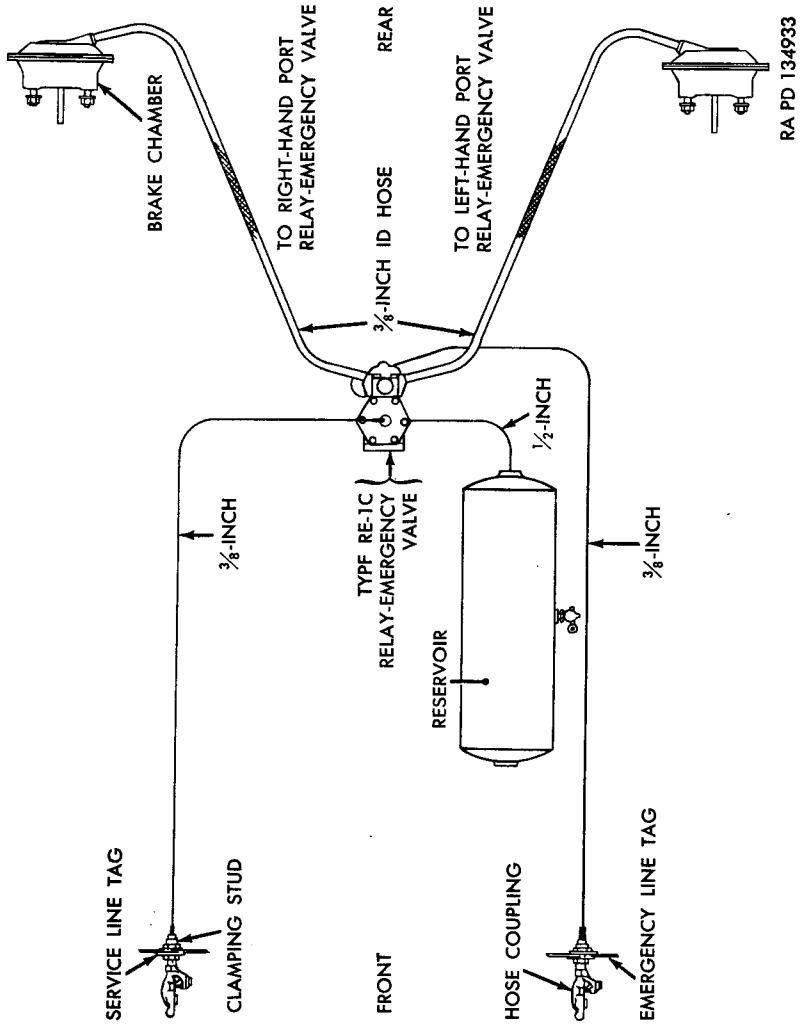

Figure 12. Typical piping diaphragm for single axle semitrailer air brake system.
b. Single Axle Semitrailer. The piping for a typical single axle semi-trailer shown in figure 12, is similar to that of four-wheel trailer except that the front axle devices are eliminated.